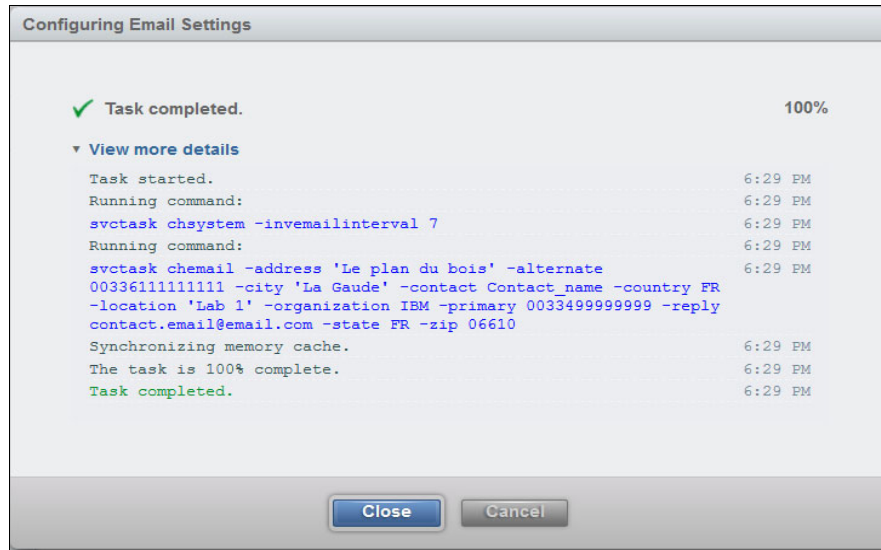

Figure 9-7 Commands run to register the contact and send inventory every 7 days
5. The Configuring Email Settings panel (Figure 9-7) shows the results. It also shows the CLI version of the dialog. Click **Close**.